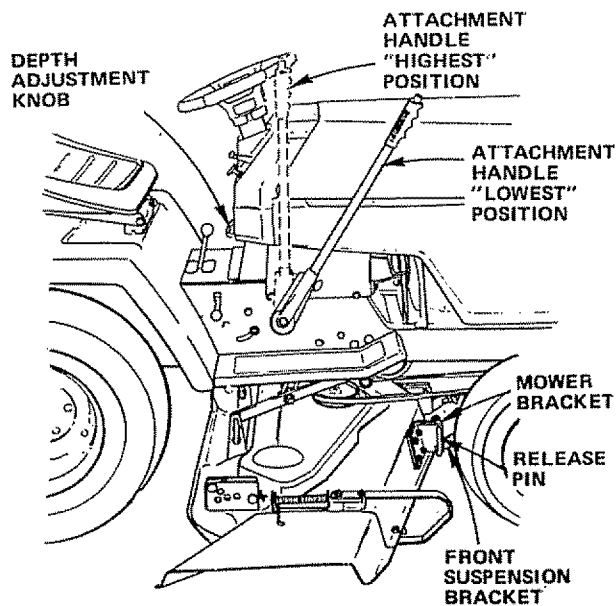

FIGURE 12
3. Slide Front Suspension Brackets into Mower Brackets. Retain with Release Pins (Fig. 12). Turn Depth Adjustment Knob counterclockwise (⤴) until it stops. Push Attachment Handle forward to lower mower to ground.
6. Turn Depth Adjustment Knob (Fig. 12) clockwise (⤵) to remove slack from Mower Suspension.